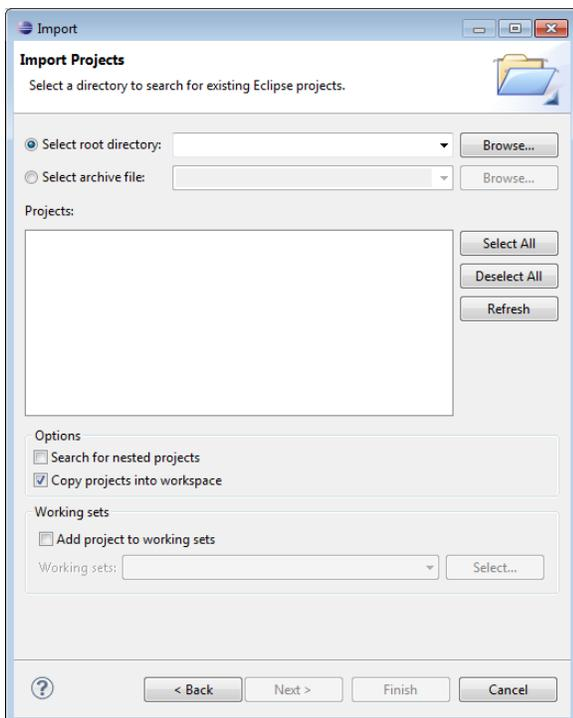

Figure 8. Import Projects Dialog Box
3. Click **Next**, and the **Import Projects** dialog appears. Select the **Copy projects into workspace** check box, as shown in Figure 8 on page 12.